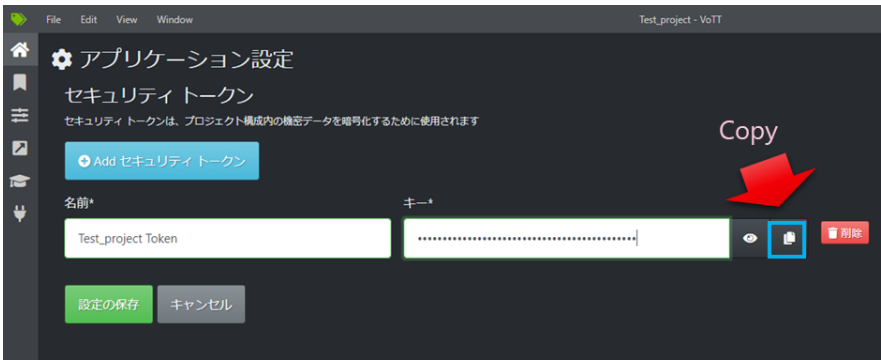

Fig. 4.15 Application settings
- (b) As shown in Figure 4.15, click the Copy button to the right of the target project name to copy the security token key.